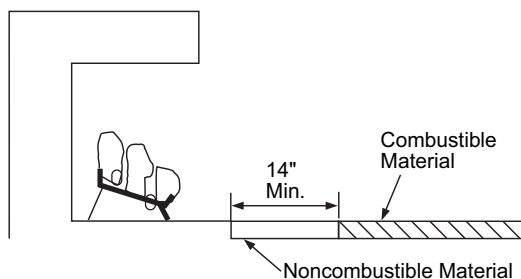

Figure 8 - Minimum Fireplace Clearances If Installed at Floor Level
- A. If installing appliance on the floor level, you must maintain the minimum distance of 14" to combustibles (*see **Figure 8***).